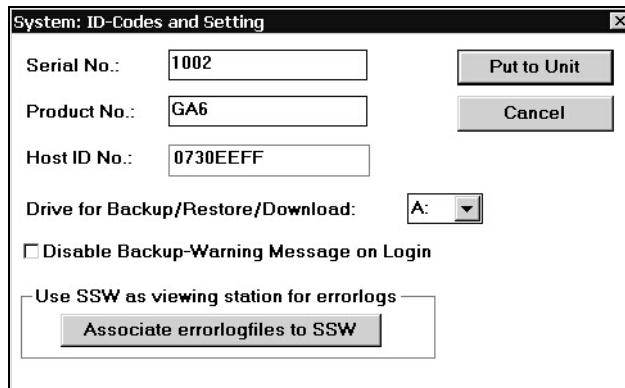

Fig. 3
- Confirm the "System: ID Codes and Setting" window (Fig. 3) with "Put to unit" if you have made any changes.